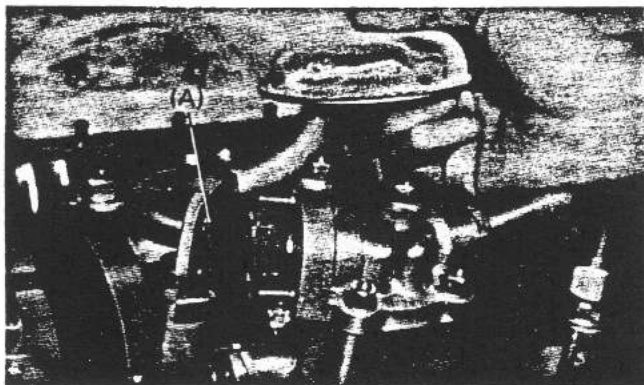

Fig. 116
Note: Insert the "O" ring (A) into the oil strainer as shown in Fig. 116.